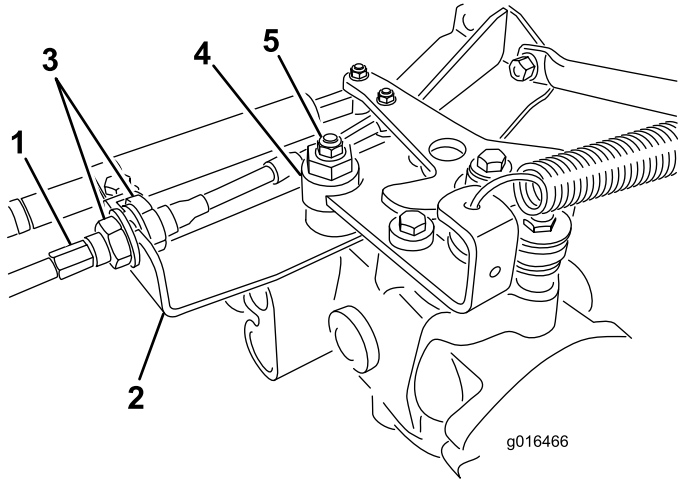

Figure 46
A. Loosen both jam nuts securing the traction-control cable to the bulkhead on the hydrostat (Figure 46). Ensure that the jam
Note: Loosen the nut securing the eccentric to the top of the hydrostat (Figure 46).
- E. When the wheel stops rotating, tighten the nut locking the eccentric and the adjustment (Figure 46).
- G. From each side of the bulkhead, tighten the locknuts evenly, securing the traction cable to the bulkhead (Figure 46). Do not twist the cable.